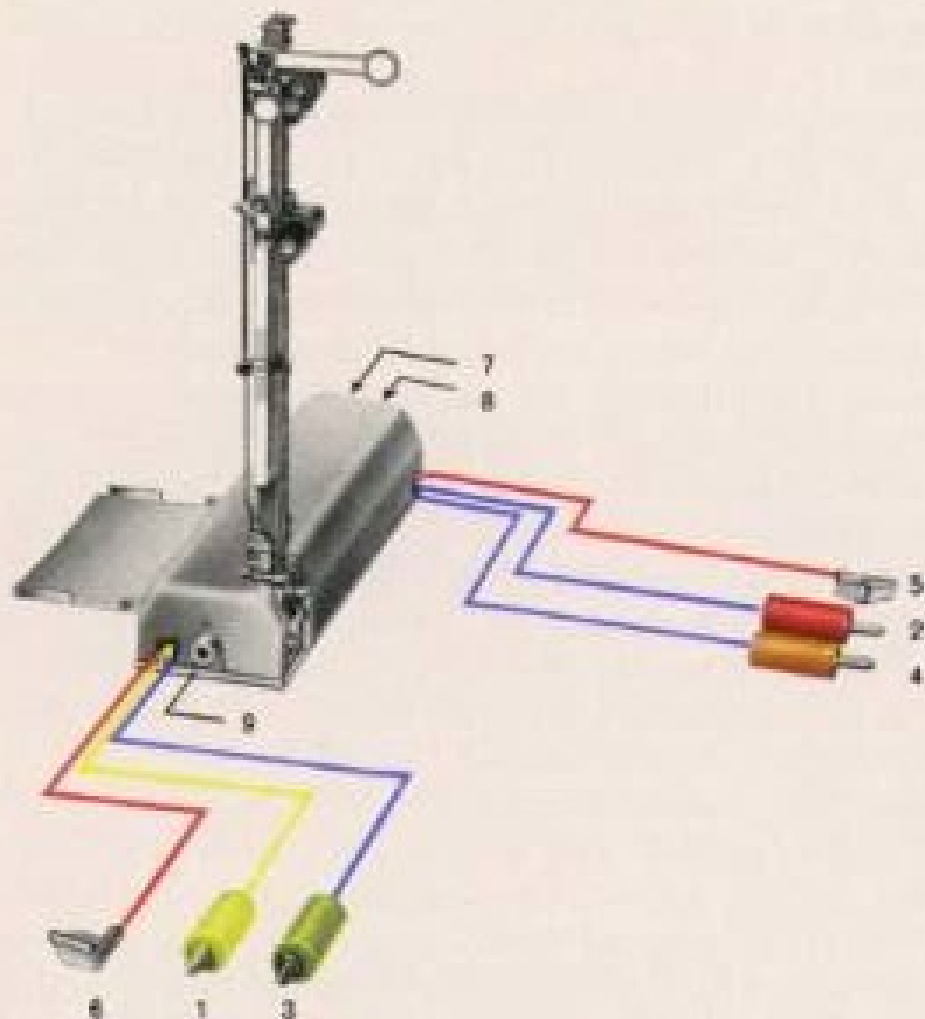

Fig. 2a The three-position semaphore 446/13 and its connections
All signals with train control there is a clear distinction between the activating and the conducted operating current. The corresponding connections are illustrated for signal 1 in Fig. 1b, for signal 446/13 in Fig. 2a, and for signal 1 in Fig. 2b. All other signals are connected in a similar manner. The activating current is brought to each signal through the yellow cable with the yellow plug (1) and creates necessary magnetism in the solenoids. It leaves the signal through the blue cable with red plug (2), the blue cable with green plug (3), or in some cases through the blue cable with orange plug (4).